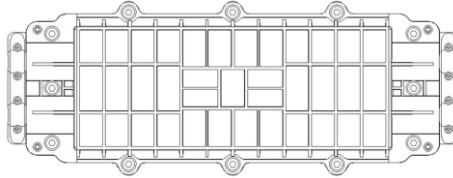

Fig 5
- Close the cover after splicing all fibres. Do it aerial hanged. (Fig 5)